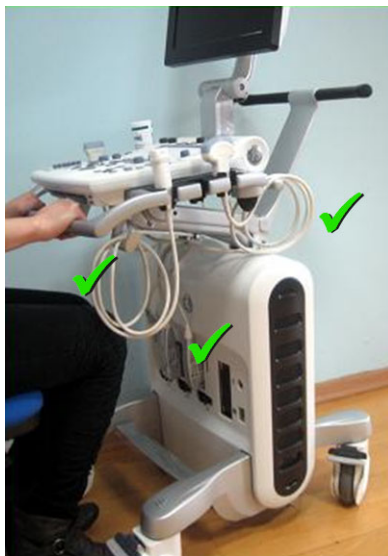

Figure 8-205 Probe in Probe Holder
- 4.) Insert the probe in the probe holder as shown in Figure 8-205.